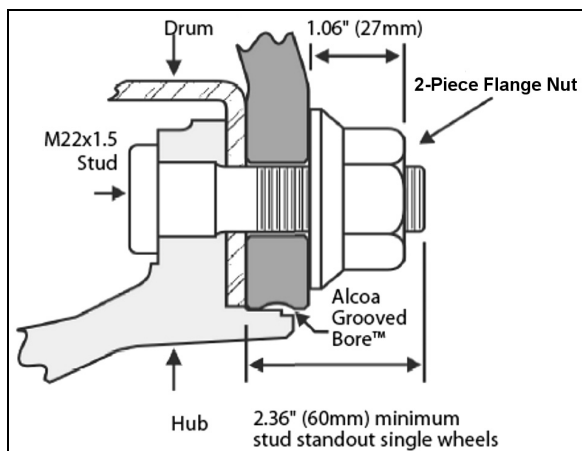

FIGURE 5: SINGLE WHEEL 13025
1. Loosen a hex stud nut three turns (Fig. 5);